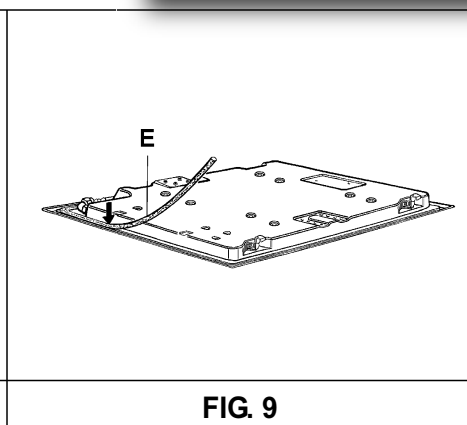

FIG. 9
- Overturn the hot plate and correctly position seal "E" (fig. 9) under the edge of the hot plate itself, so that the outer side of the seal perfectly matches the outer edge of the hot plate. The ends of the strips must fit together without overlapping.